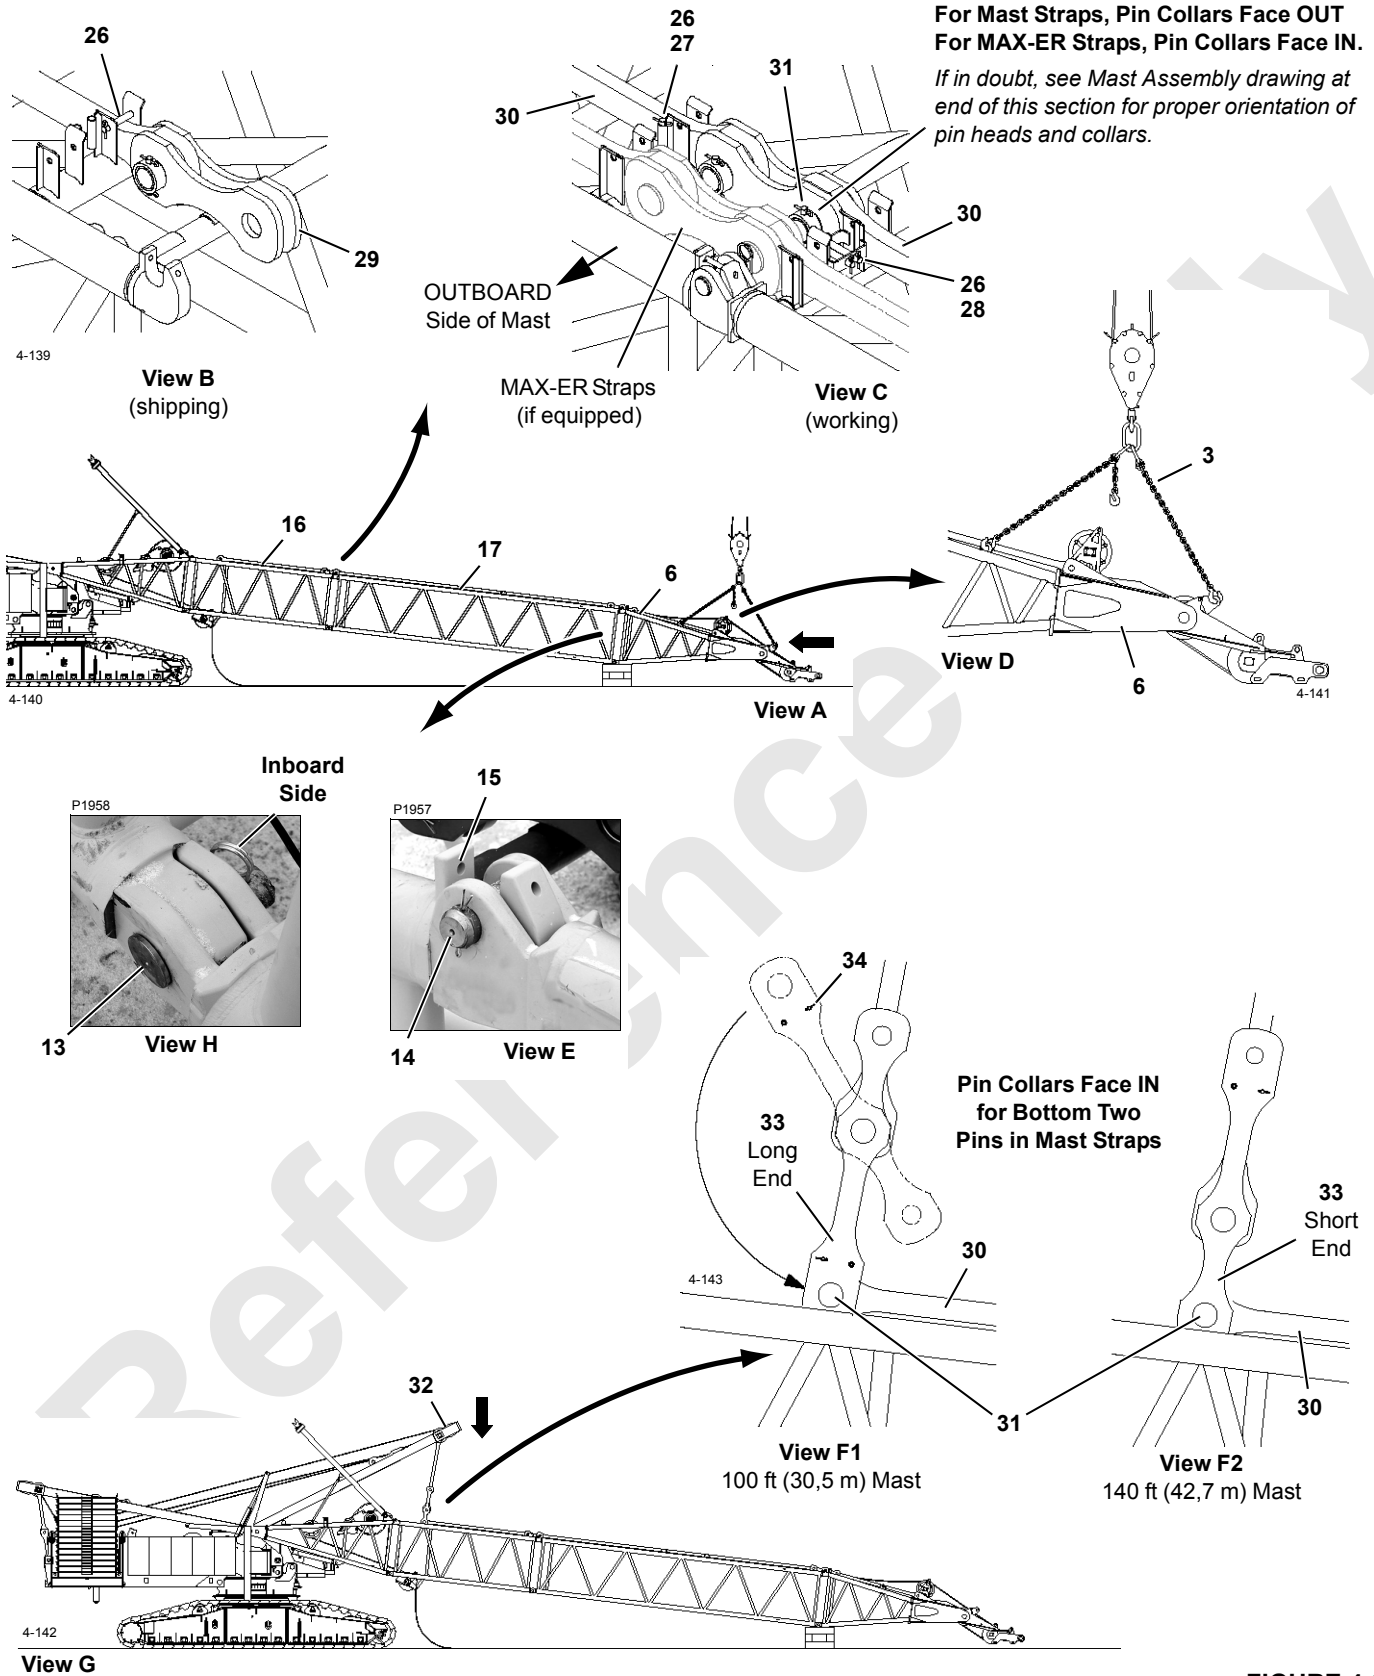

FIGURE 4-29
Legend for Figure 4-29
See Figure 4-29 for the following procedure.
8. Verify that all mast strap shipping pins are removed and stored (Figure 4-29, View C).